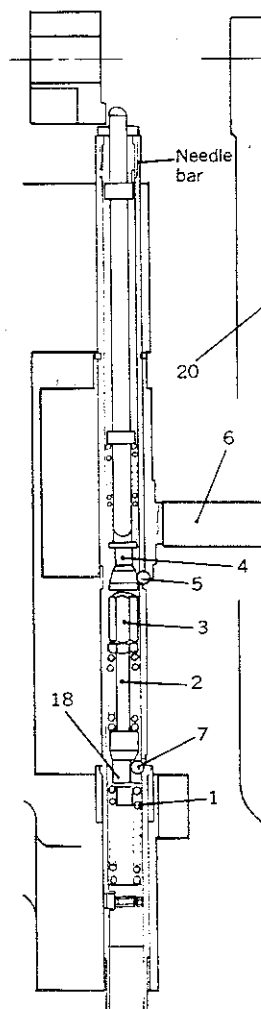
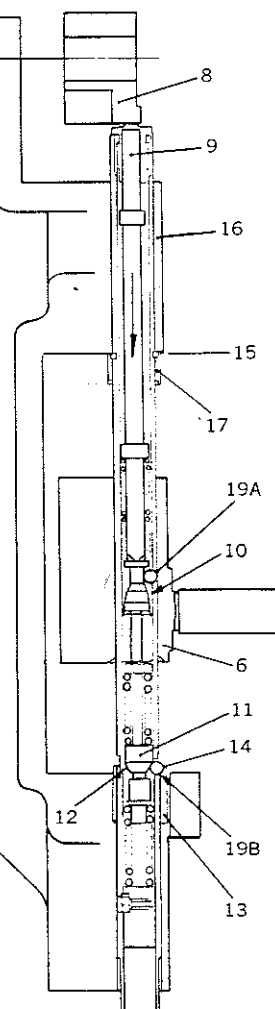
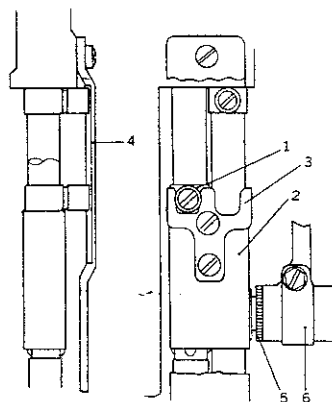

FIG. 40A
FIG. 40B
FIG. 38
The mechanism disposed within the needle bar is detailed on Fig. 40A which shows a needle bar in the operational state, while Fig. 40B shows a needle bar in stopped position. The force of spring (1) pushes plunger (2) and adjusting nut (3) against cone (4) which in turn forces three steel balls (5) outwardly beyond the diameter of the needle bar and against the countersink at the bottom end of the needle bar connecting stud (6). At the same time triangular prism (18) is allowing three steel balls (7) to recede below the diameter of the needle bar. Consequently, the movement of the needle bar connecting stud will cause the needle bar to reciprocate.
When stopping a needle bar by moving the change over lever (1) (Fig. 40B) into either the "L" or "R" positions, the mechanism locates needle bar selector block (8) Fig. 40B directly above the respective rod end (9). This rod end of the reciprocating needle bar now contacts the selector block causing the rod to move downward inside the needle bar causing cams (10 and 11) to likewise move downward. This allows upper balls (19A) to recede below the diameter of the needle bar while at the same time forcing lower balls (19B) outwardly beyond the diameter of the needle bars. Lower balls (19B) are now forced against the tapered mouth (14) of the needle bar bushing (13) and will stop the downward movement of the needle bar. While needle bar position guide (15) contacts the bottom of the upper end of the needle bar rock frame, thereby locking the needle bar tightly into place. At the same time the retracted upper balls (19A) do no longer lock the needle bar against the underside of the needle bar connecting stud (6) and so allow the latter to glide along the needle bar.
PREVENTION OF NEEDLE BAR ROTATION (Fig. 38)
Needle bar position guide (1) in conjunction with the bifurcated needle bar position bracket (3), attached to needle bar connecting stud (2) Fig. 38 in conjunction with needle bar position guide plate (4) keep the needle bar from rotating. In the operating mode, bracket (3) serves this purpose, while when a needle bar is stopped the channels embossed into the guide plate (4) prevent rotation.
The exact vertical position of the needle bars is important for their trouble-free engagement and disengagement, respectively, since their positions are fixed within the needle bar rock frame (2) Fig. 40B. For the purpose of making the required fine adjustment of the needle bar position, and eccentric bushing (5) Fig. 38 is provided in needle bar connecting link (6).